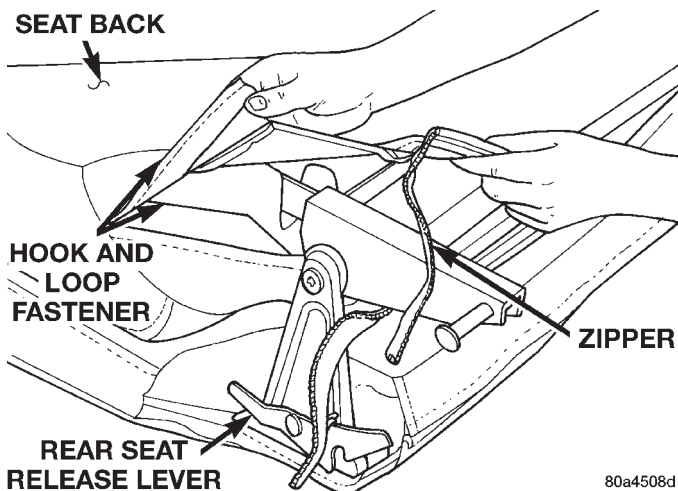

Fig. 6 Seat Back Cover
- (1) Remove rear seat.
- (2) Remove the seatback.
- (3) Disengage the hook and loop fasteners at the seatback lower corners (Fig. 6).
- (4) Disengage the seatback cover zipper.
- (5) Carefully, remove the seatback frame from the cushion/cover.
- (6) Roll the seatback cover upward and disengage the hook and loop fasteners.